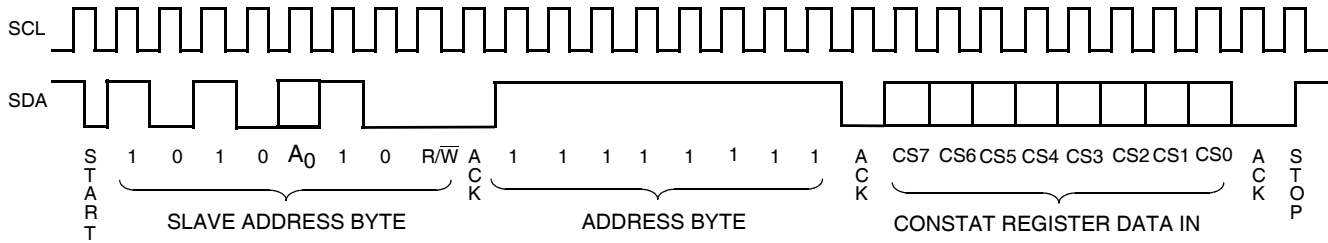

Figure 18. CONSTAT Register Write Command Sequence
Writes to the WEL bit do not cause an internal high voltage write cycle. Therefore, the device is ready for another operation immediately after a STOP condition is executed in the CONSTAT Write command sequence (See Figure 18).
- After a successful write operation to any bits of the CONSTAT register has been completed (See Figure 18).
The CONSTAT register is accessed using the Slave Address set to 1010A₀10 (Refer to Figure 4.). Following the Slave Address Byte, access to the CONSTAT register requires an Address Byte which must be set to FFh. Only one data byte is allowed to be written for each CONSTAT register Write operation. The user must issue a STOP, after sending this byte to the register, to initiate the nonvolatile cycle that stores the BP1 and BP0 bits. The X9525 will not ACKNOWLEDGE any data bytes written after the first byte is entered (Refer to Figure 18.).